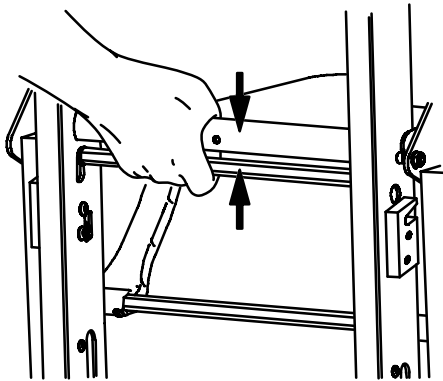

Figure 8 – Red track release bar
4. Head end operator: Squeeze the red track release bar against the black cross tube (Figure 8). Relax your grip on the release bar and forcefully pull the **Stair-TREAD** system to the fully extended position until both sides lock securely. Always make sure that both sides of the **Stair-TREAD** system are locked by trying to fold it back up.